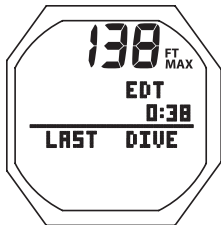

Fig. 125 - FREE SURF ALT 1
**FREE SURF ALT 1**, information includes (Fig. 125):